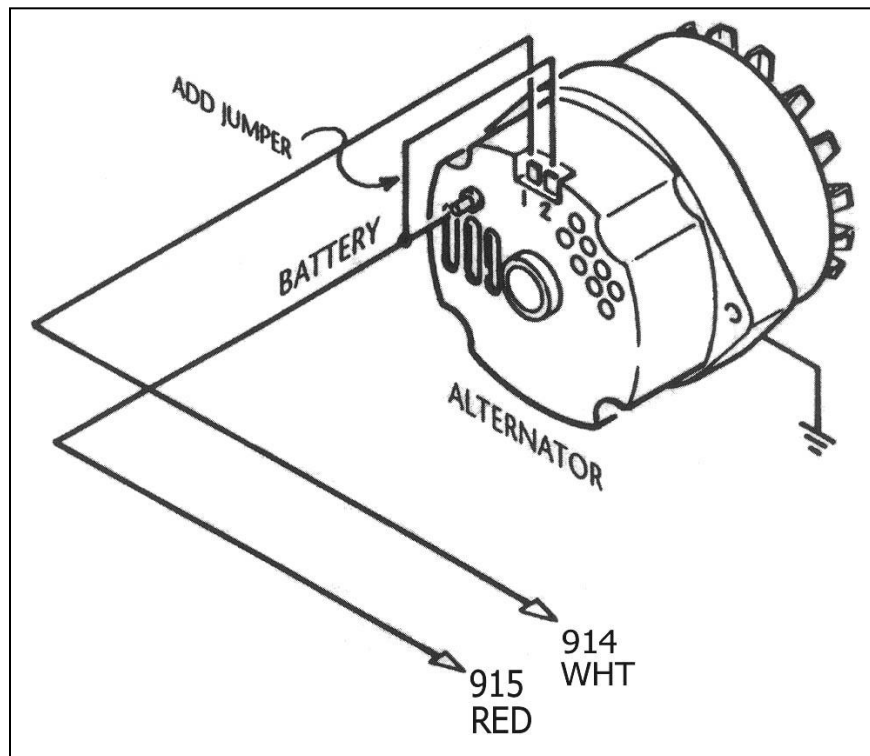

Figure 7.2 Late GM Alternator – Internal Regulator
7.2 Late GM Alternator (after 1972) - Internal Regulator. See Figure 7.2